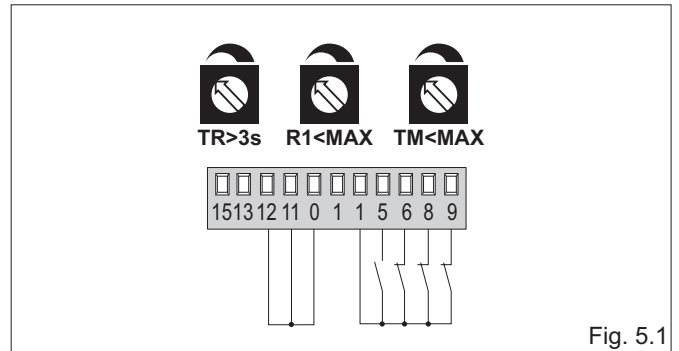

Fig. 5.1
- **(Fig. 5.1) Door wings stop against mechanical end stops and in the event of obstacle detection.**